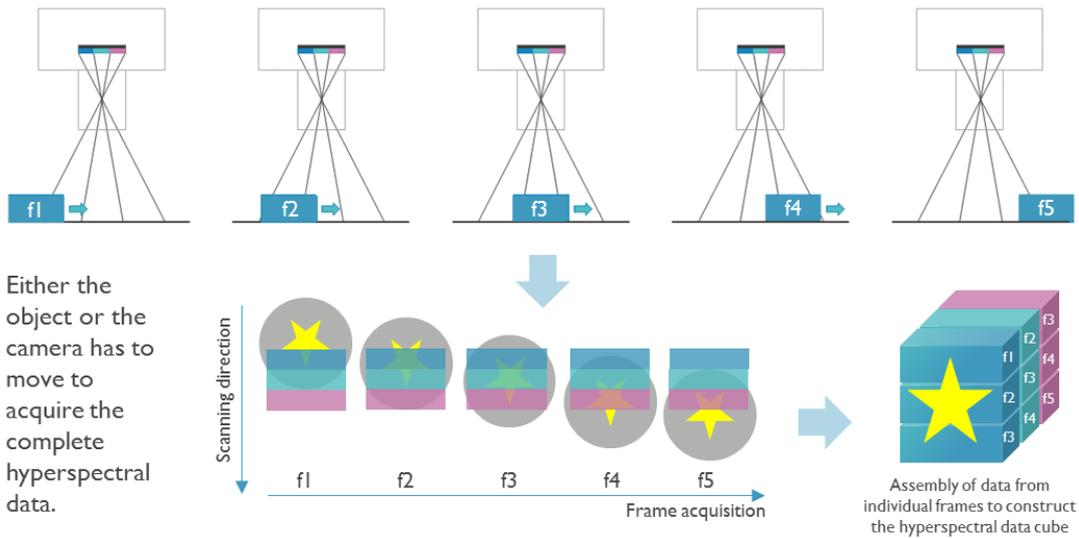

Figure 1 Working principle for imec hyperspectral linescan sensors
- i** *The camera's lens projects an entire area image on the imec hyperspectral linescan sensor. Different filters are deposited on the sensor, stretching over the full width of the sensor and varying along the sensor's height. The light is thus filtered depending on the row position of the image on the sensor, yielding images as shown in Figure 1. This greatly simplifies the system's optical system and on top makes focusing and setting exposure times easier.*
The difference between imec's hyperspectral linescan and snapscan is illustrated in Figure 1 and Figure 2. These illustrations assume a hypothetical linescan sensor with three spectral bands.